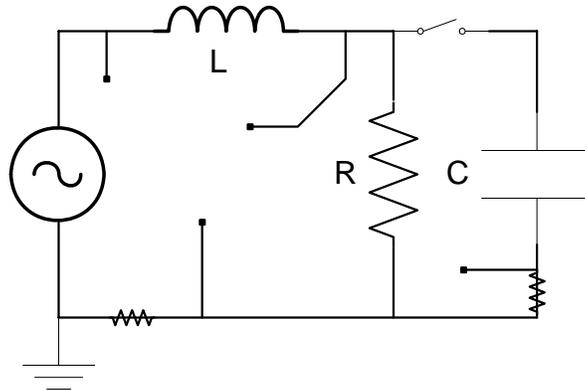

Fig. 4. The experimental circuit to observe compensation.  $R= 100 \Omega$ ,  $L=100 \text{ mH}$ ,  $C=10 \mu\text{F}$ .
6. (a) Construct the circuit of Figure 4 with the capacitor disconnected. Maintain the source at the settings of the previous procedure. Measure the phasors of the supply voltage and current and the phasor of the voltage across the resistor. Use the voltage across the resistor as reference.